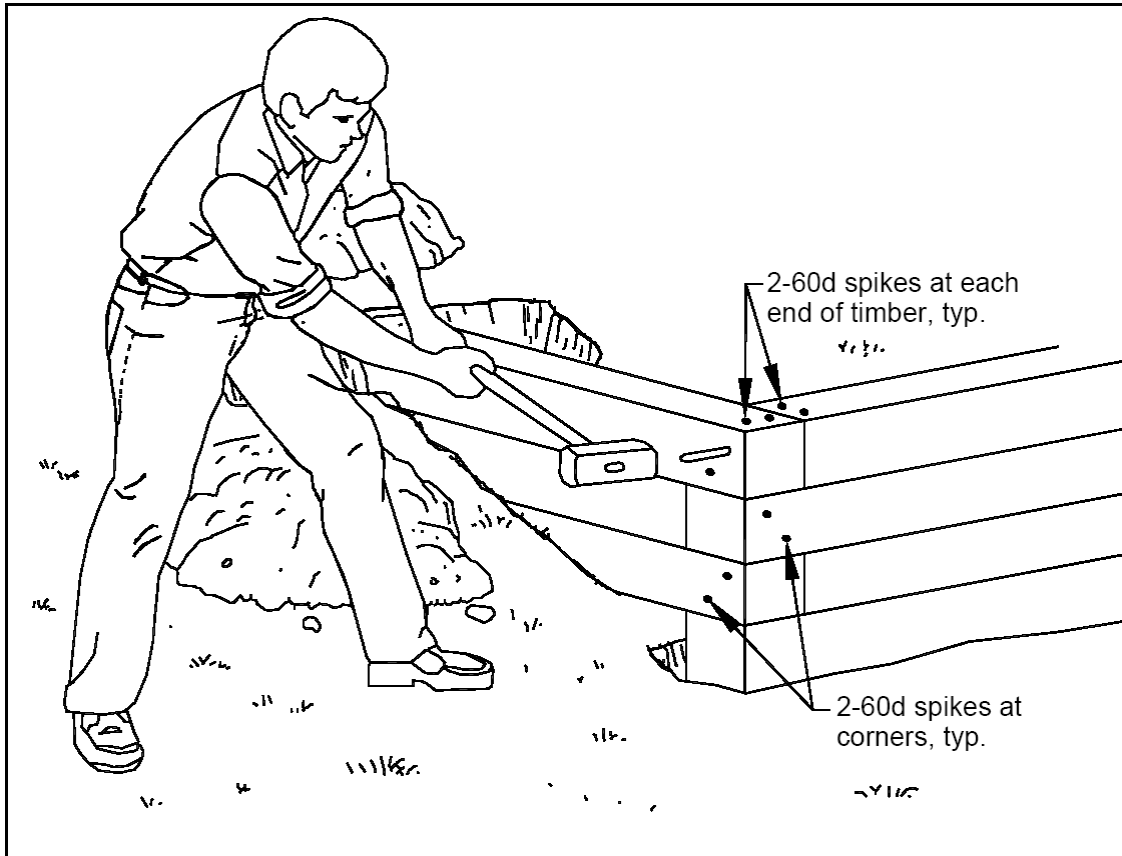

FIGURE 4: TYPICAL CORNER DETAIL
4. Each 6x6 member shall be secured at each end with 2-60d spikes driven vertically into the member below. Corners shall be secured with 2-60d spikes, driven horizontally as shown in FIGURE 4.